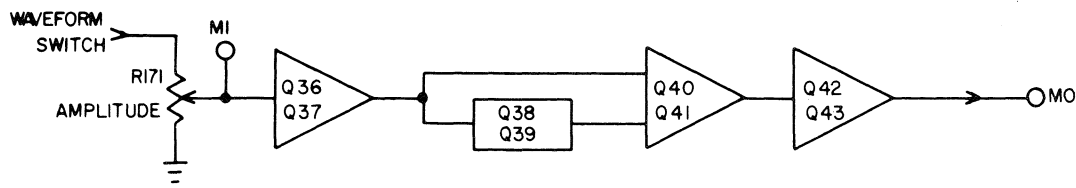

Figure 6. Plus Output Amplifier
4.5 PLUS OUTPUT AMPLIFIER (See Figure 6)